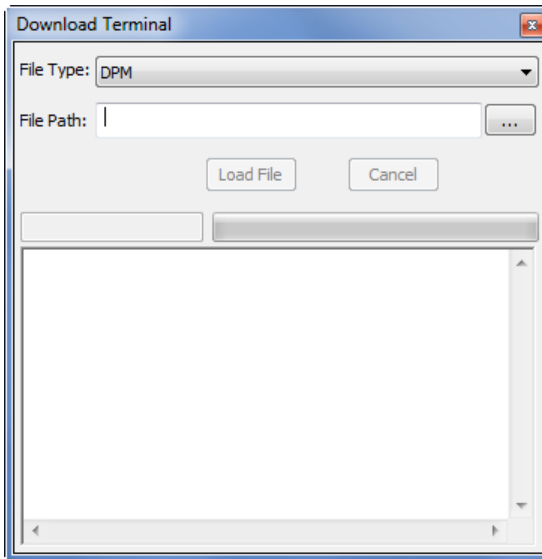

Figure 5.6 – Download terminal
2. **Download Terminal** – One of the great features in Bobcat configuration utility is download terminal. User can upgrade the camera firmware and up-load to the camera any custom LUT, DPM or FFC – Figure 5.6.